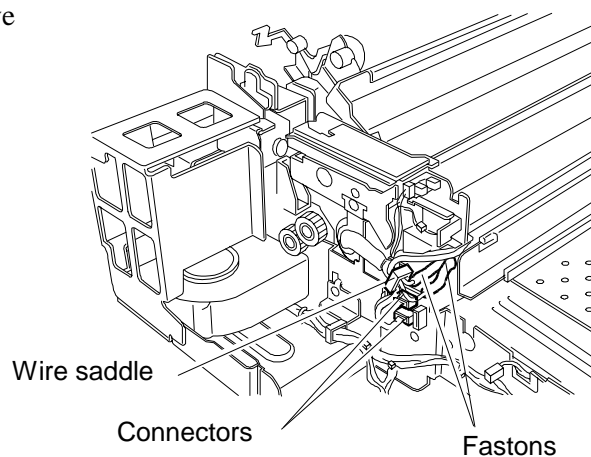

Fig. 2
2) Release the lock of the wire saddle, and remove the fastons; then, disconnect the connectors. (Figure 2)